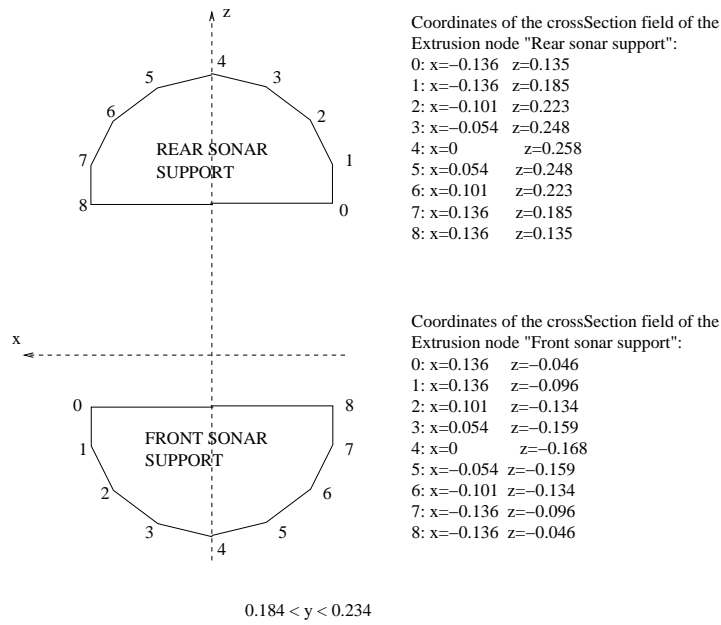

Figure 3.22: Sonar supports of the Pioneer 2™ robot
- for the sonar supports: two `Shape` nodes with a geometry `Extrusion`. See figure 3.22 for the `Extrusion` coordinates.